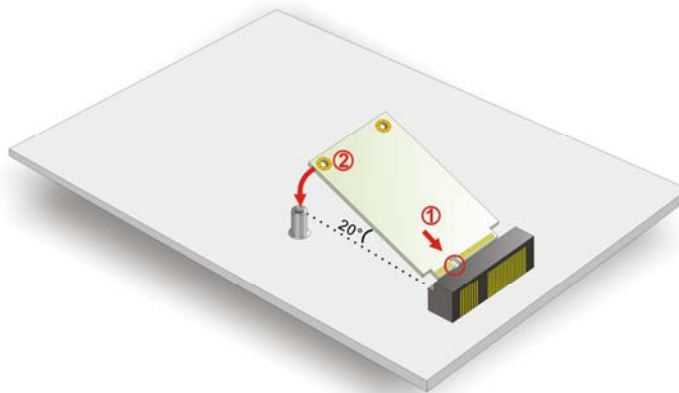

Figure 4-17: Insert the PCIe Mini Card into the Socket at an Angle
Step 3: Insert into the socket at an angle. Line up the notch on the card with the notch on the connector. Slide the PCIe Mini card into the socket at an angle of about 20° (**Figure 4-17**).